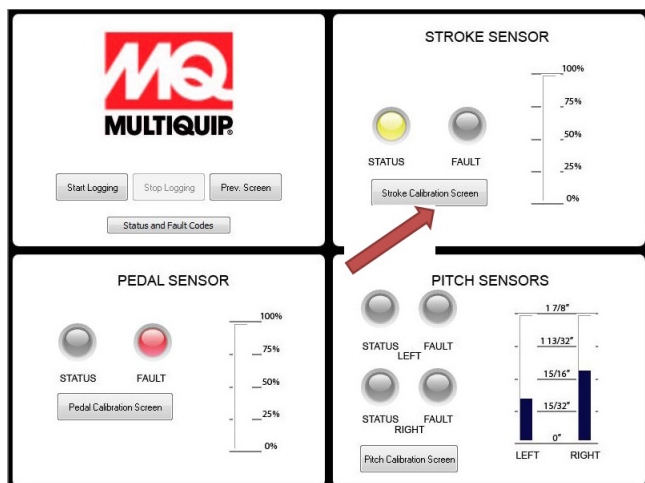

Figure 40. Calibrate Stroke Sensor
5. Click "Calibration" button in STROKE SENSOR section (Figure 40).